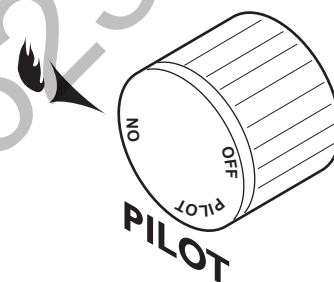

Figure 43 - On Position
Depress and turn the knob counterclockwise to the “ON” position. *See Figure 43.* It will take less than four (4) seconds for the burner to ignite.